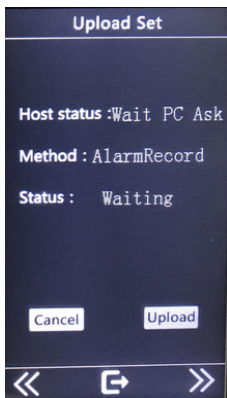

Figure 13
A) click the upload settings button, and the upload status displays waiting for PC access. As shown in figure 13